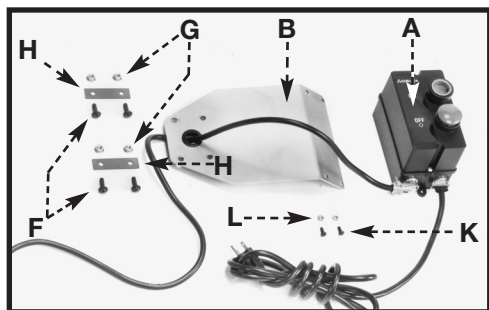
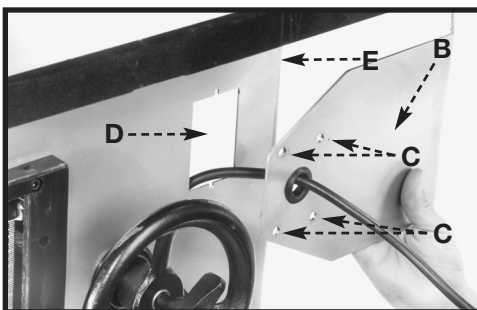
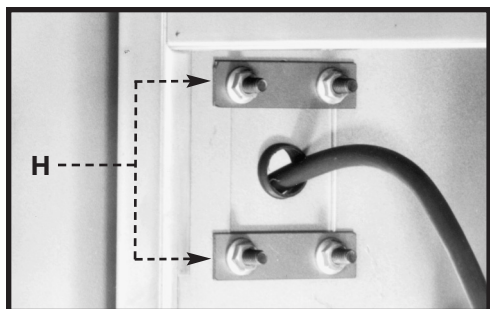
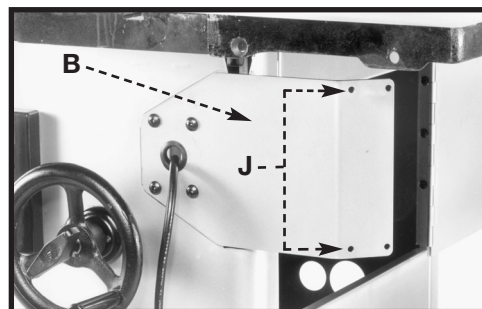

Fig. 6
Fig. 7
Fig. 8
Fig. 9
1. The on/off switch (A) Fig. 6 and switch mounting bracket (B) are shipped inside the shaper cabinet. Open the side door of the shaper cabinet, remove the switch package, and remove all packaging material.
2. Position the switch mounting bracket (B) Fig. 7 with the holes (C) over hole (D) in the shaper cabinet (E). Fasten the bracket (B) to the cabinet (E) using the four 1/4-20 x 7/8" truss head screws (F) Fig. 6, 1/4-20 flange nuts, (G) and the two switch adapter plates (H) Fig. 8.
NOTE: Position the switch adapter plates (H) inside the shaper cabinet (Fig. 8).
4. Attach the on/off switch (A) Fig. 6 to the switch mounting bracket (B) Fig. 9, through the two holes (J). Use two #10-32 x 1/2" Phillips head screws (K) Fig. 6 and secure with #10-32 Keps nuts (L).